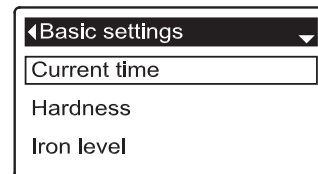

FIG. 97
3. Press the SELECT (O) button to display the Basic settings menu (See Figure 97).
7. Press the SELECT (O) button. The display will go back to the Basic settings menu (Figure 97).